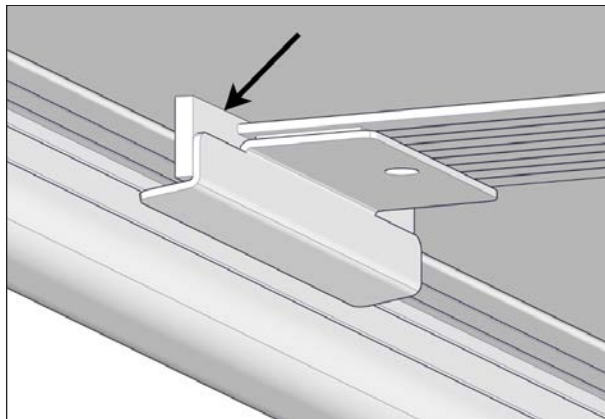

FIGURE 99: FINAL POSITION OF THE WIPER
At the final position of the wiper, the flap must touch the edge of the I-beam see Figure 99.
4. Stick the wiper bracket on the middle of the I-beam by holding it in place and maintaining pressure for at least 60 seconds. This ensures a proper bond to the I-beam. Make sure you install the wiper flap at the edge of the I-beam directly into the gap between the I-beam and the C-channel, see Figure 99.